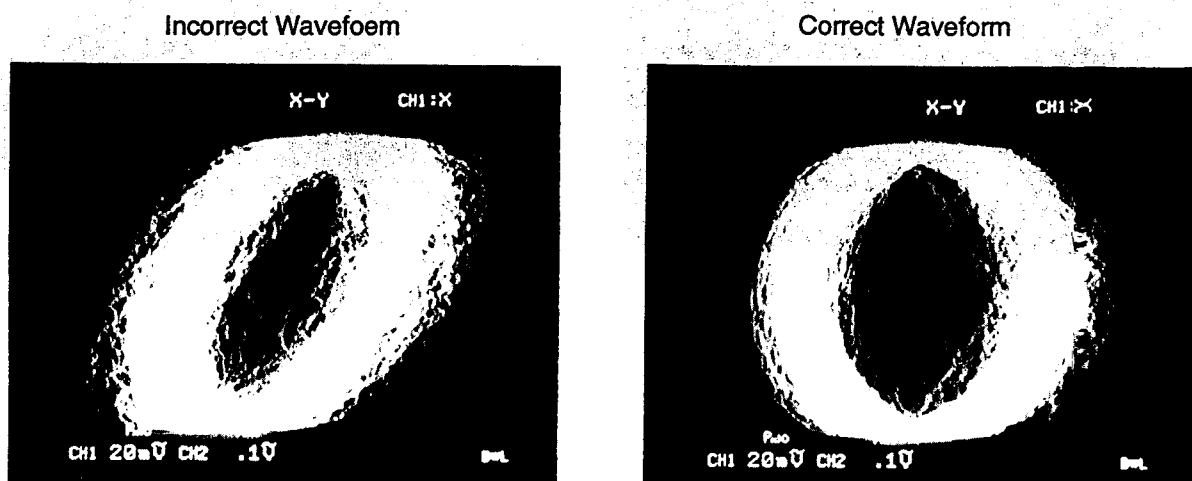

Fig. 21 Waveform, Tracking Gain Ajustment
- ④ Adjust the focus gain volume (VR3) so that the waveform on the oscilloscope becomes circle as shown in Fig. 21.